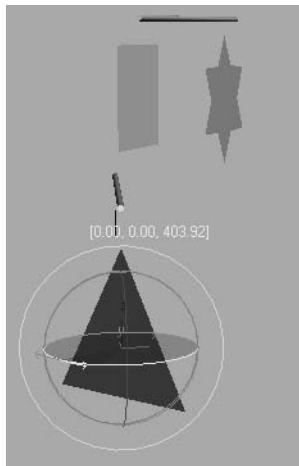

Figure 8.2
2. Select the triangle hanging from the bottom bar, and go to frame 50. Rotate the triangle in the Z-axis in either direction at least a full turn of 360 degrees, if not a lot more, as shown in Figure 8.2. Don't scrub your animation yet.